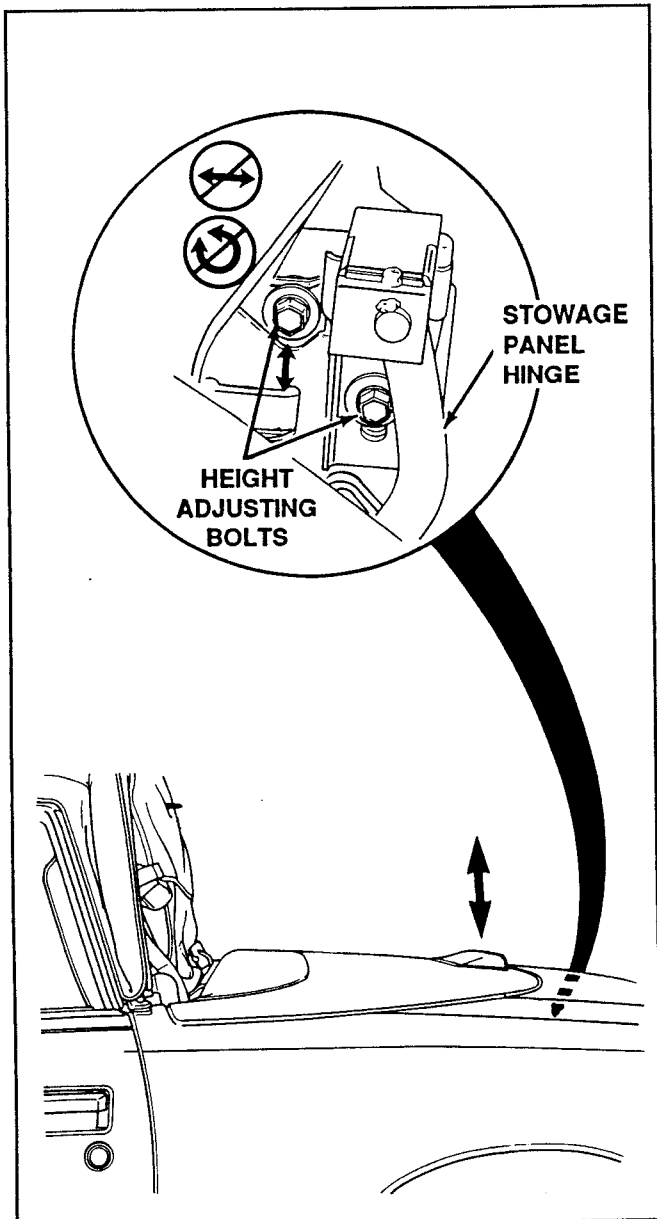

Figure 53. Adjust Stowage Panel Rear Height
3. Tighten the bolts (Fig. 53).